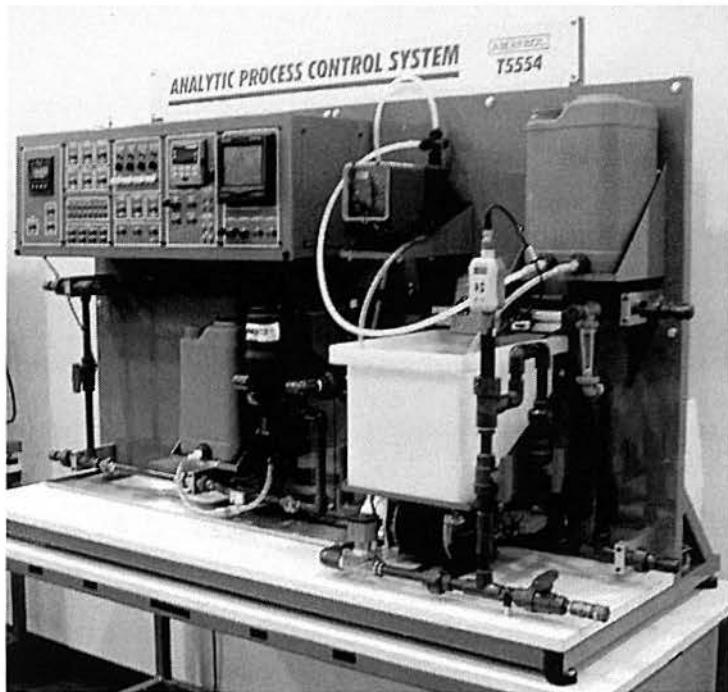

Figure 23. T5554 Analytical Process Control System
- 4. After receiving approval from your instructor, go to the T5554 Analytical Process Control System, as shown in figure 23, and perform your analysis using the assigned methods.